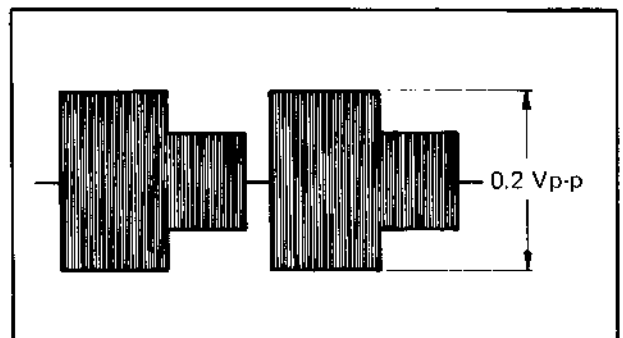

Fig. 6-35 Playback color level
3. Adjust R52 (P. B. COLOR LEVEL) of Pre/Rec board so that the level of TP-202 is $0.2 \pm 0.05 \text{ Vp-p}$ as shown in Fig. 6-35.